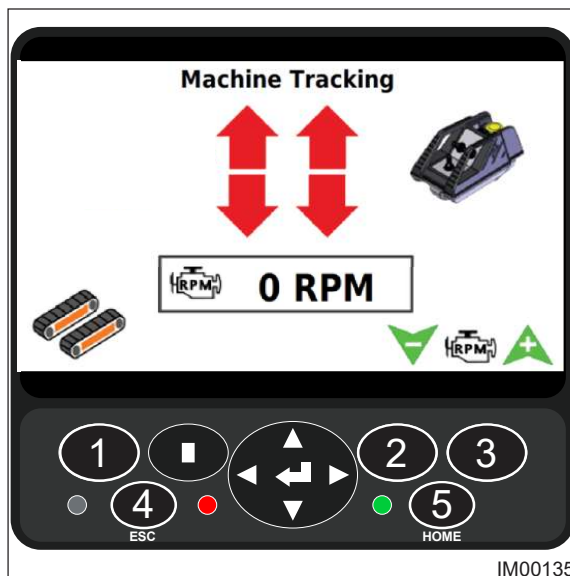

Fig. 6.6 - Track Screen
- ◇ The control panel identifies the handset is connected and the Track Screen displays (Fig. 6.6).
8. Press the Tracks Enable button (Item 1, Fig: 6.6).
9. The Engine RPM can be increased and decreased using buttons (Items 2 & 3, Fig: 6.6).
- Press the Tracks Disable button (Item 1, Fig: 6.6) on the display screen.